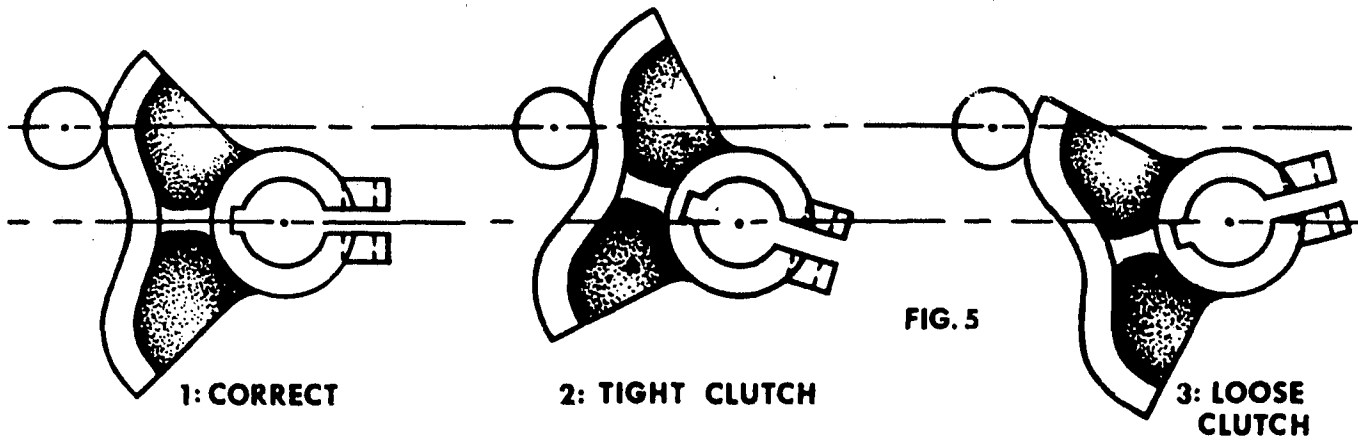

FIG. 5
A. To check for clutch wear, engage boom hoist and check roller on brake release cam. See Figure 5 for typical conditions of a fully engaged clutch. To compensate for normal clutch wear, adjustment can be made on slotted link Figure 332, manual control (or Fig. 986, air control), or by tightening nut (1) Figure 332, (or Fig. 986). Either adjustment is permissible, but if nut (1) is used no readjustment of the helical cam levers is necessary.
C. Return stationary or adjustable cam arm to within 1/2" of full-loose location of slotted link. Adjust nut (1) until position No. 1 Figure 5 is reached. Replace keeper and clamp bolt.